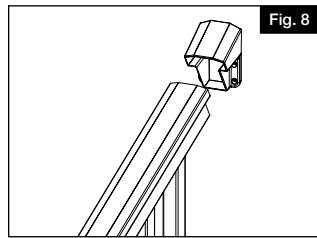
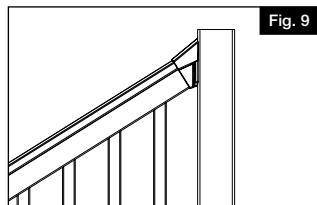

Fig. 8
Fig. 9
- e. Ensure bracket is centered to post. Then, using $\frac{1}{8}$ " drill bit, pre-drill first bottom bracket screw hole through bracket hole and post (use the four outside corner holes) (Fig. 8).
- i. Snap bottom rail bracket covers snugly onto bottom brackets (Fig. 9).
Slide the angle brackets onto the rails (Fig 8), and place rail section between your posts (Fig 9).
Repeat installation process for each additional rail assembly (Fig 8).